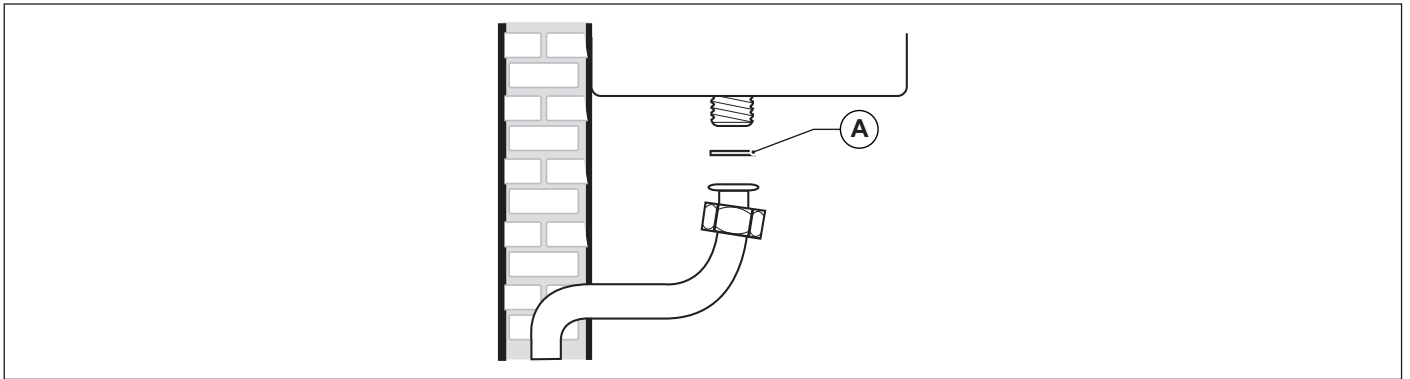

Fig. 16 Connection to gas mains
When connecting the boiler to gas supply network, it is COMPULSORY to install an appropriately sized gasket (A) made from suitable material (see Fig. 16 Connection to gas mains).